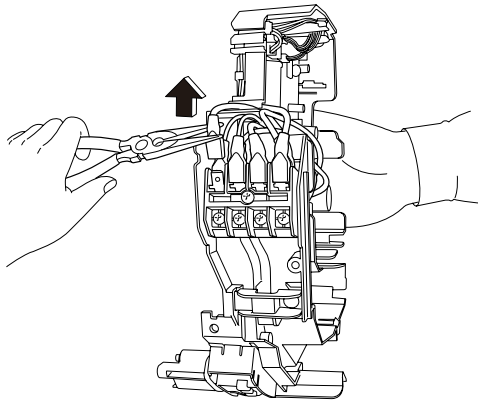

Fig. 28
- (5) Take off wiring terminal. (Fig.28)